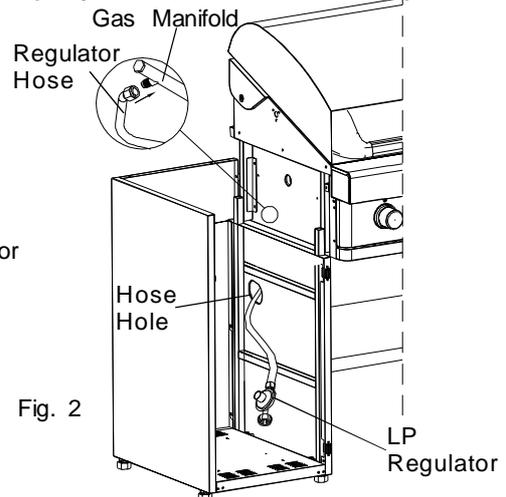

Fig. 2
- Secure the Left Rear Panel to left cabinet use 1 Pan Head Screw 3/16"x3/8". (see Fig. 2)
- Install Transformer:** Install Transformer onto the Transformer Bracket by putting the four pre-assembled screws on the Transformer into the four holes on the Transformer Bracket. Press the Transformer downward until the screws rest in place. (see Fig. 2)
- Connect the LP Regulator Hose to the Gas manifold. (see Fig. 2)
- Install 2 Lower Door Brackets onto left and right cabinet using 4 Countersunk Flat Head Screws 3/16"x 3/8" and tighten securely. (see Fig. 2)
- Install the new Rear Lower Bowl Panel onto the back of the Grill Bowl using the same screws and tighten securely. (see Fig.2) (do not reinstall the Rear Trim panel)